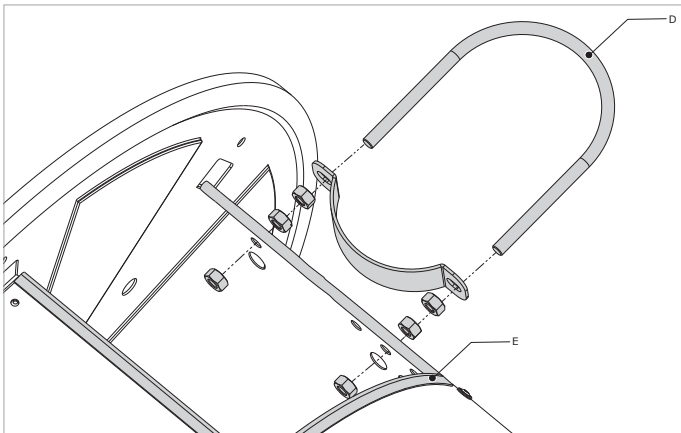

Fig. 4.3 Straining the hose
- Bend hose into a natural soft curve and fasten it using clamp (D) (fig. 4.3).
- Mount the edge protection (E) at the opening of the drum where the hose protrudes (fig. 4.3).